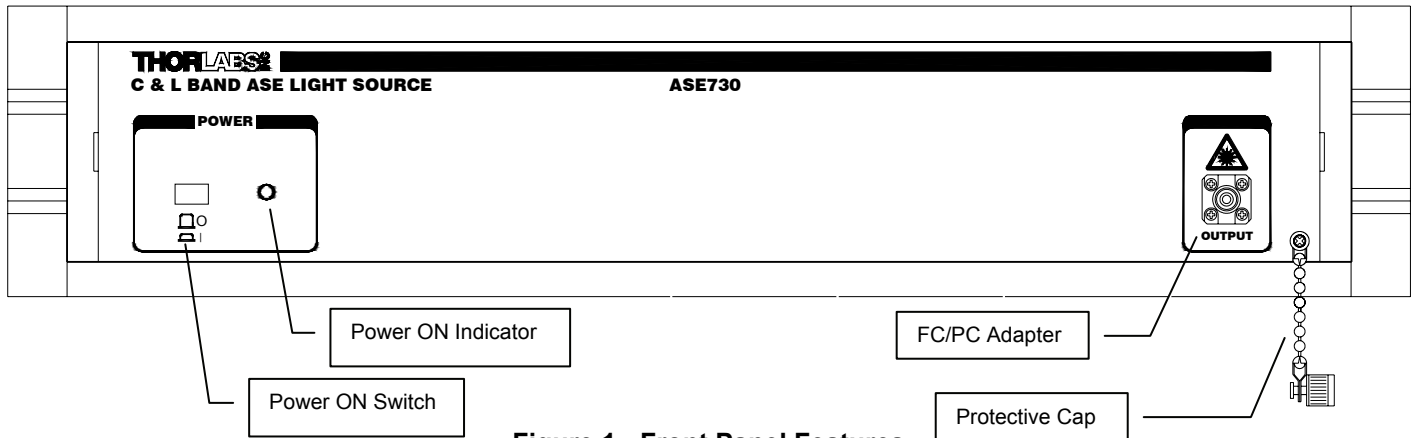

Figure 1 - Front Panel Features
- marked correspondingly with the crossed out “wheelie bin” logo (see fig. 1)